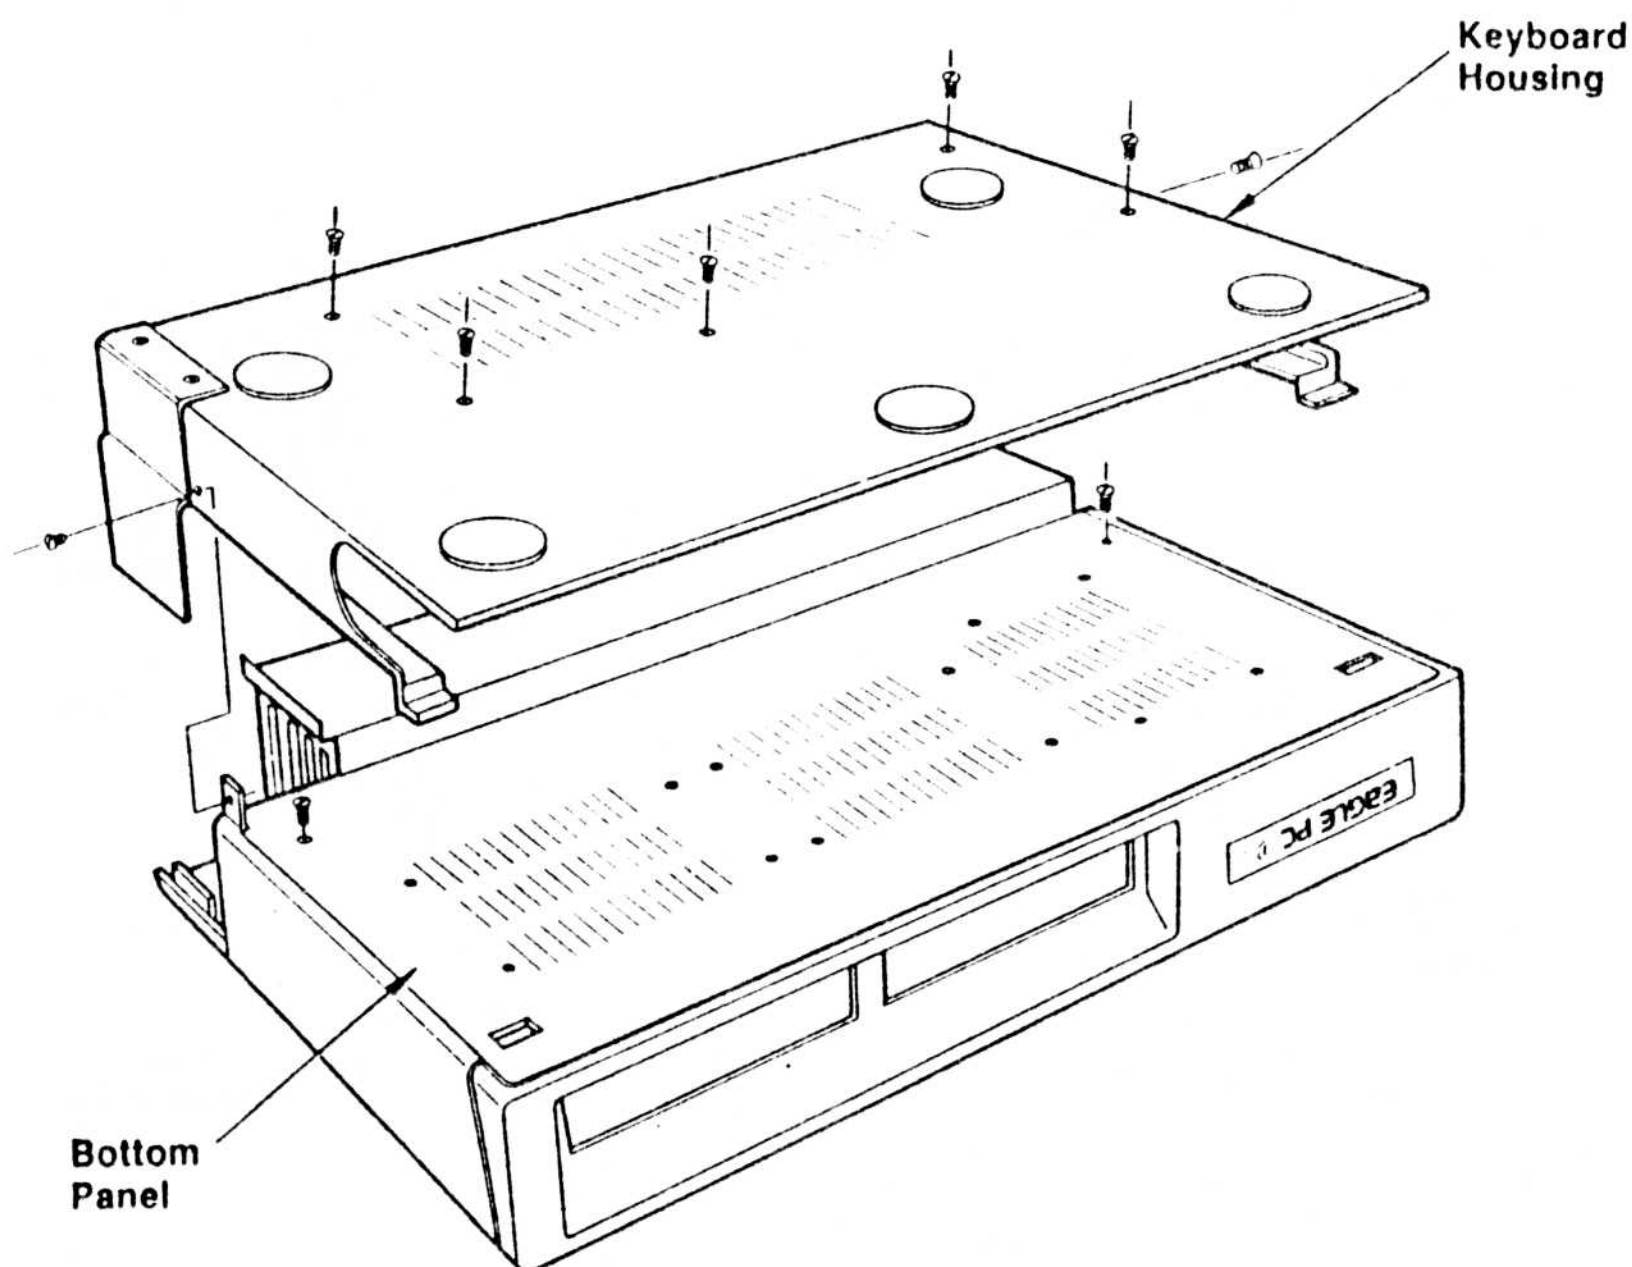

FIGURE 6: PC PLUS ENCLOSURE
- STEP 3** Set the main unit upside down on a cleared area with the rear of the system facing you. Unscrew the seven painted screws around the vented panel: five on the bottom plate and one on each side of the bottom plate. Refer to Figure 6. Set the painted screws aside in a safe place.
- STEP 7** Remove the two painted screws on the main unit bottom panel closest to the expansion boards. Set the painted screws aside in a safe place. Refer to Figure 6.